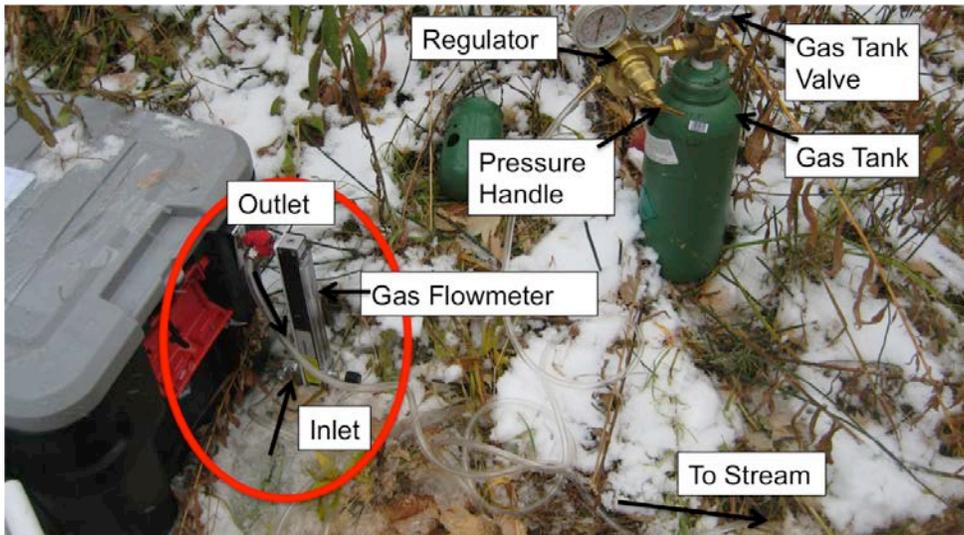

Figure 7. Gas tank, regulator, and flowmeter field setup
- a. At the injection site, set-up the SF₆ gas tank, regulator and flow meter (Figure 7).